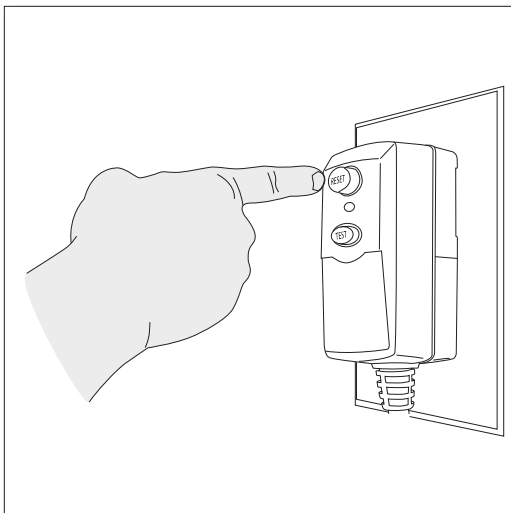

Fig. 20
- Unwind the power cord completely and plug the GFCI into a grounded 120 volt outlet. Press the ‘reset’ button on the GFCI box (Fig. 20). The indicator window should show a red color. This must be done each time the unit is plugged in.